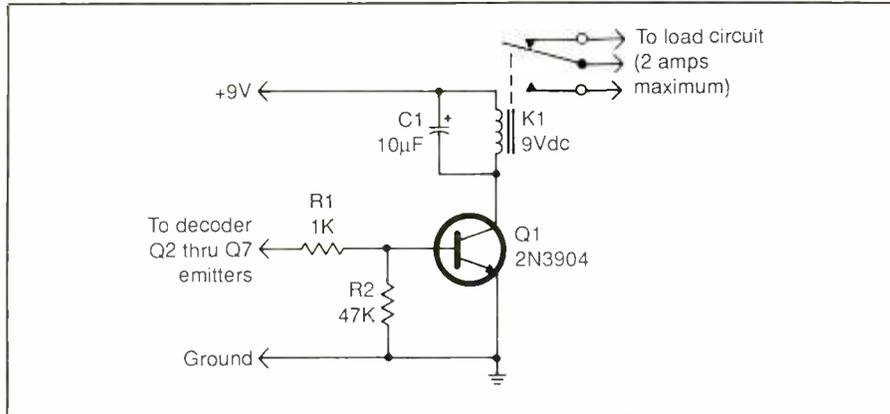

Fig. 1. Simplest type of control circuit contains an electromechanical relay that is driven by a transistor.
• **Simple Relay Circuit.** Figure 1 illustrates the simplest type of control circuit. It contains a common dc relay that is driven by a transistor. The single-pole, double-throw relay contacts can be used to switch power to any type of load circuit that does not exceed the 2-ampere contact rating of the relay. A readily available relay is specified in the Parts List, but you can substitute another relay that has
The circuit shown in Fig. 1 offers momentary operation because the relay will be energized only during the time the transmitter pushbutton for the channel to which the relay is assigned is held down. Releasing the transmitter button causes the relay contacts to spring back to the unenergized position.
transmitter pushbutton is pressed, the potential at the emitter of the driver transistor rises to about +5 volts. This is sufficient to forward-bias relay transistor *Q1* in the Fig. 1 circuit so that collector current flows and energizes relay *K1*.
Shown in Fig. 2 are the actual-size etching-and-drilling guide (A) and wiring diagram (B) for the printed-circuit board for the Fig. 1 relay driver circuit. You can fabricate this and any of the other pc boards presented in this article or you can purchase ready-to-wire boards from the source given in the Note at the end of the Parts List. Guide (A) is laid out for the relay specified for *K1* in the composite Parts List. Hence, if you use a different relay, you will have to modify the layout accordingly.